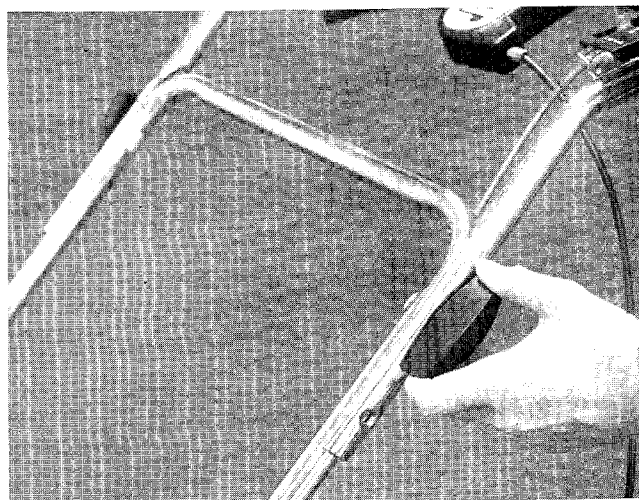

FIGURE 2
4. Assemble the upper handle with the engagement lever attached, to the lower handle with the two knobs. Make sure the single hole for the throttle is on the right side of the handle. The knobs can be either to the inside or the outside of the handle. (See figure 2.)